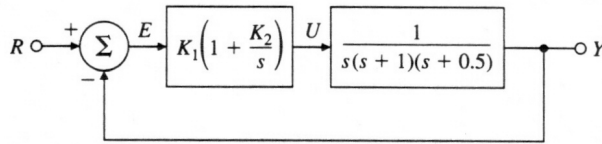

Figure 5.70: Feedback system for Problem 43
43. Consider the system in Fig. 5.70.